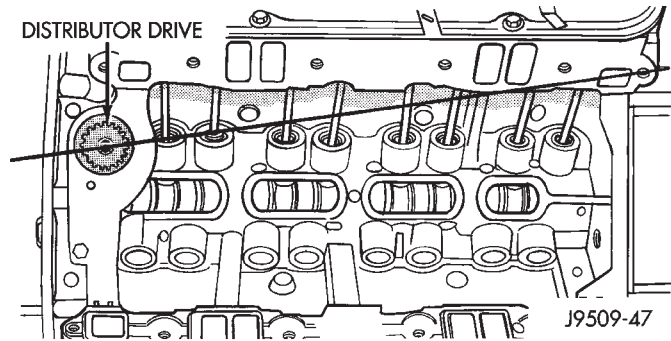

Fig. 36 Position of Oil Pump Shaft Slot
(1) Rotate crankshaft until No.1 cylinder is at top dead center on the firing stroke.
(2) When in this position, the timing mark of vibration damper should be under "0" on the timing indicator.
(3) Install the shaft so that after the gear spirals into place, it will index with the oil pump shaft. The slot on top of oil pump shaft should be aligned towards the left front intake manifold attaching bolt hole (Fig. 36).